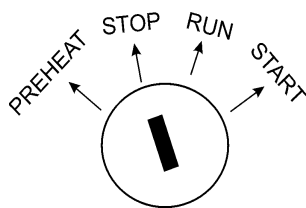

Figure 33. Key Switch (OFF)
4. Turn the key switch to 'STOP' (Figure 33).